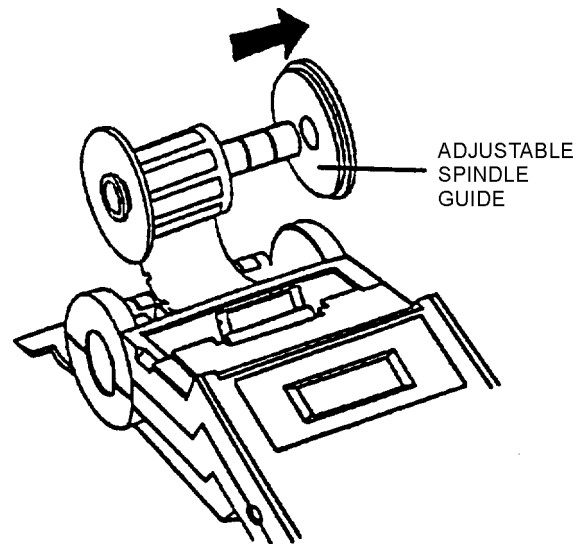

Figure 18. Adjustable Spindle
b. Remove roll spindle from the printers crib and slide off blue adjustable spindle guide (Figure 18)